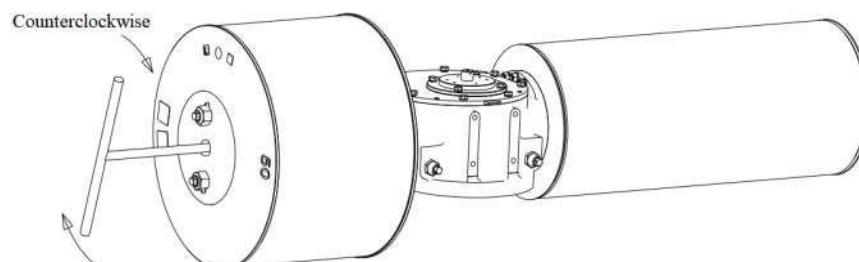

Figure 10
2) Use the special tools provided by the factory to extend into the cylinder module and insert into the end of the piston rod, as shown in Figure 10;
3) Rotate the special tool counterclockwise in the direction shown in Figure 10 to completely disengage the piston rod and the transmission joint. Refer to Table 7 for the number of rotations;